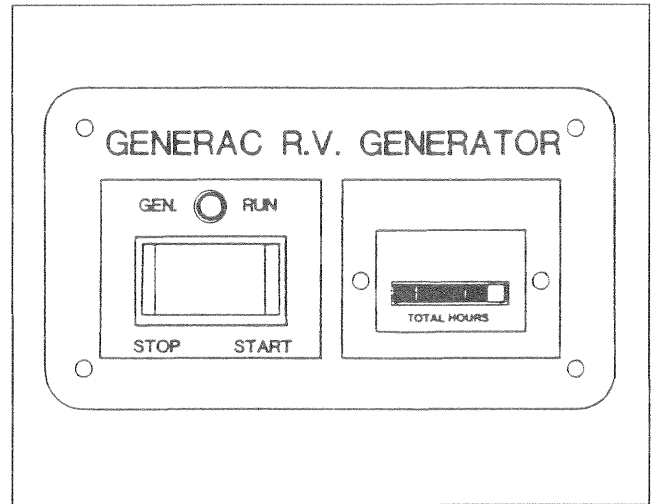

Figure 34 — Model 9043 Remote Panel
**Model 9043:** This panel mounts a rocker type switch, a “Generator Run” lamp and an hourmeter (Figure 34). Use the hourmeter in conjunction with the periodic maintenance schedule for your generator.